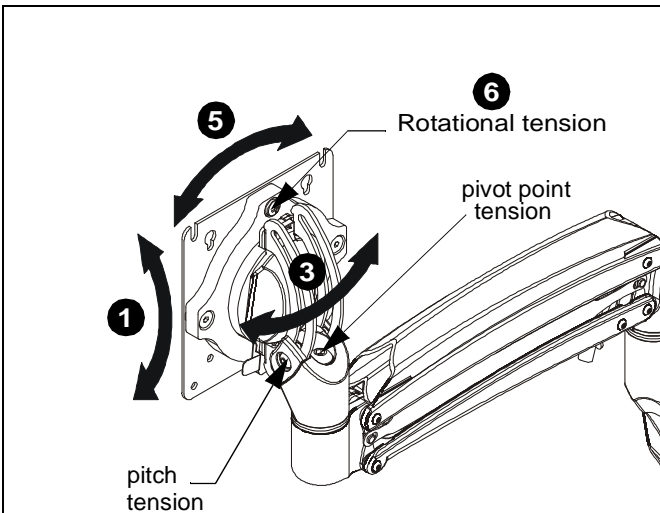

Figure 14
1. Adjust pitch to desired tilt position. (See Figure 14)
2. Adjust pitch tension screw to change the adjustment tension. (See Figure 14)
3. Adjust pivot position as desired. (See Figure 14)
4. Use 3/16" hex key (K) to adjust pivot point tension screws to change pivot adjustment tension. (See Figure 14)
5. The monitor may be adjusted 90 degrees in either direction in order to provide a portrait view of the monitor. (See Figure 14)
6. Use 3/16" hex key (K) to adjust rotational adjustment screw to adjust rotational tension. (See Figure 14)